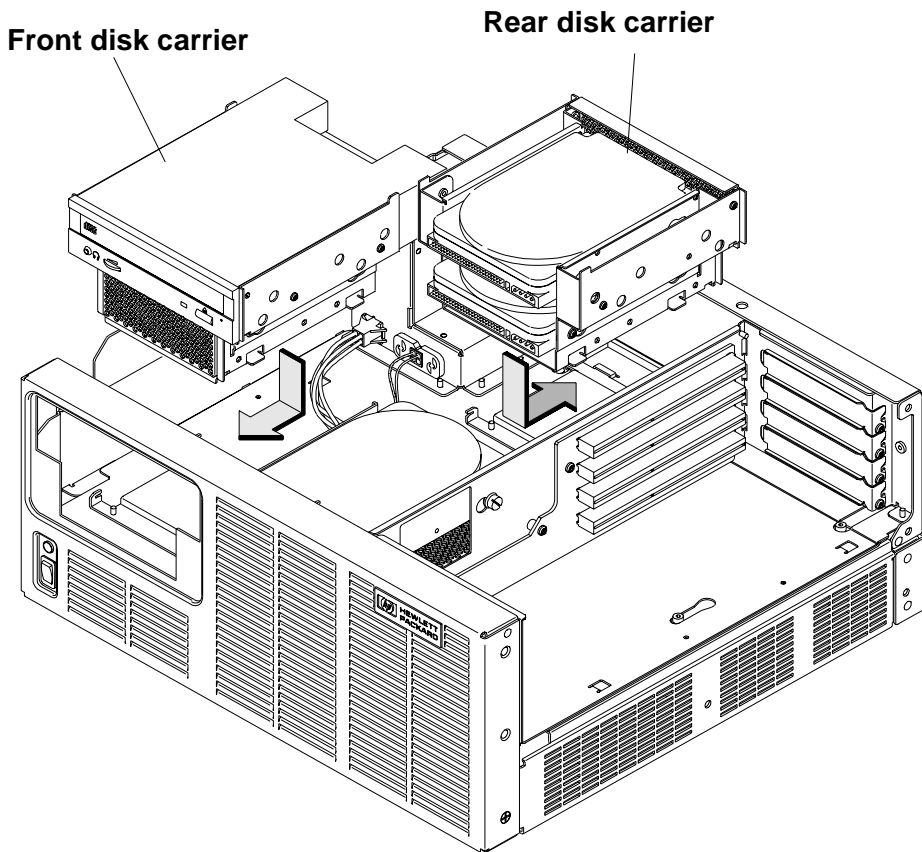

Figure 7-7 **Installing the Disk Carriers**
- 10 Replace disk carrier into the system. See Figure 7-7.